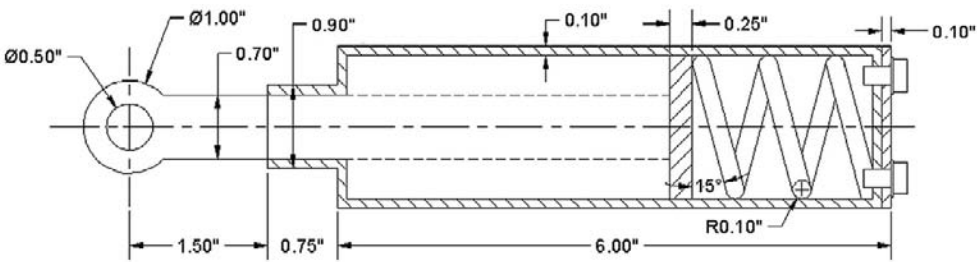
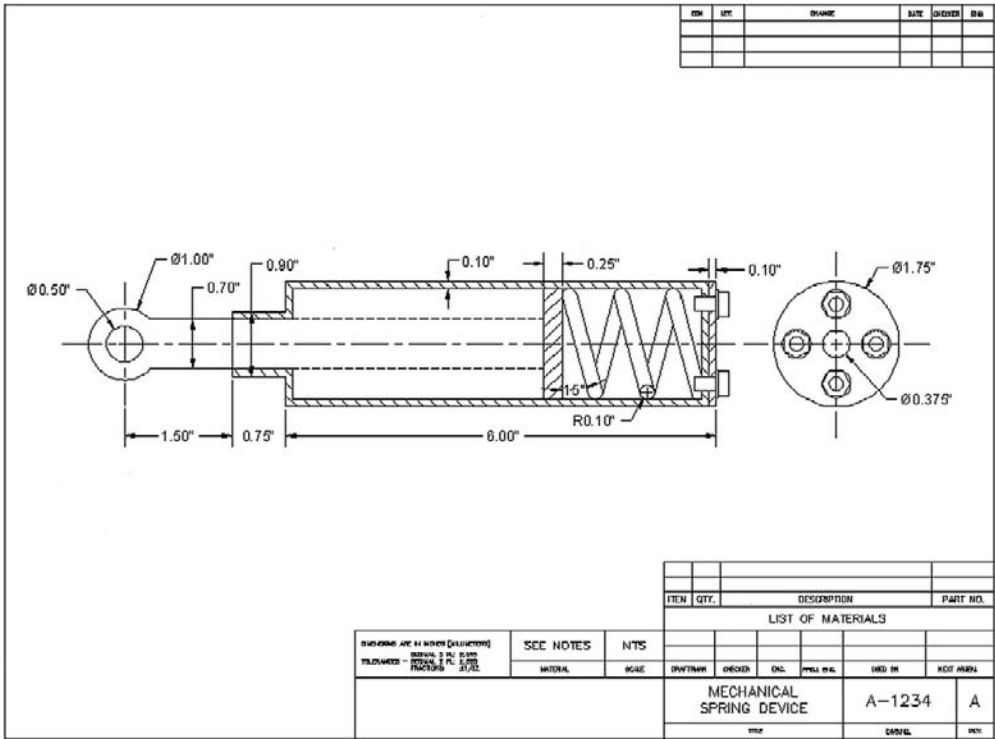

FIGURE 8.33
FIGURE 8.34
A full-page view of the completed device is found toward the end of the chapter (Figure 8.34). Take a good look at it and decide on a strategy to draw it. Over the course of the next few pages, you will see a step-by-step process to actually do it. Follow the steps carefully, and do not worry about the thick border; that is a polyline, to be covered in Level 2. The title block is otherwise just a simple collection of lines and text.
Step 12. Finally add dimensions (Figure 8.33) and a title block (Figure 8.34) by use of rectangles. The title block and its contents are typical of a mechanical engineering drawing.